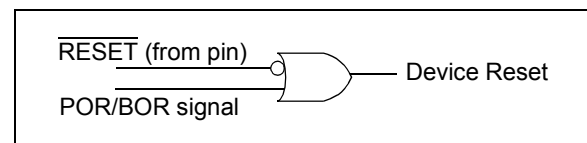

**FIGURE 4-1:** POR/BOR Signal and  $\overline{RESET}$  Pin Interaction.
**Figure 4-1** shows how the  $\overline{RESET}$  pin signal and the POR/BOR signal interact to control the hardware Reset state of the device.